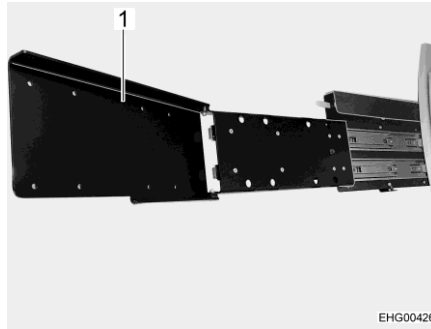

Fig. 94 Pull-out (extended and folded)
- To turn the flat screen to the rear area: fold pull-out (Fig. 94,1).